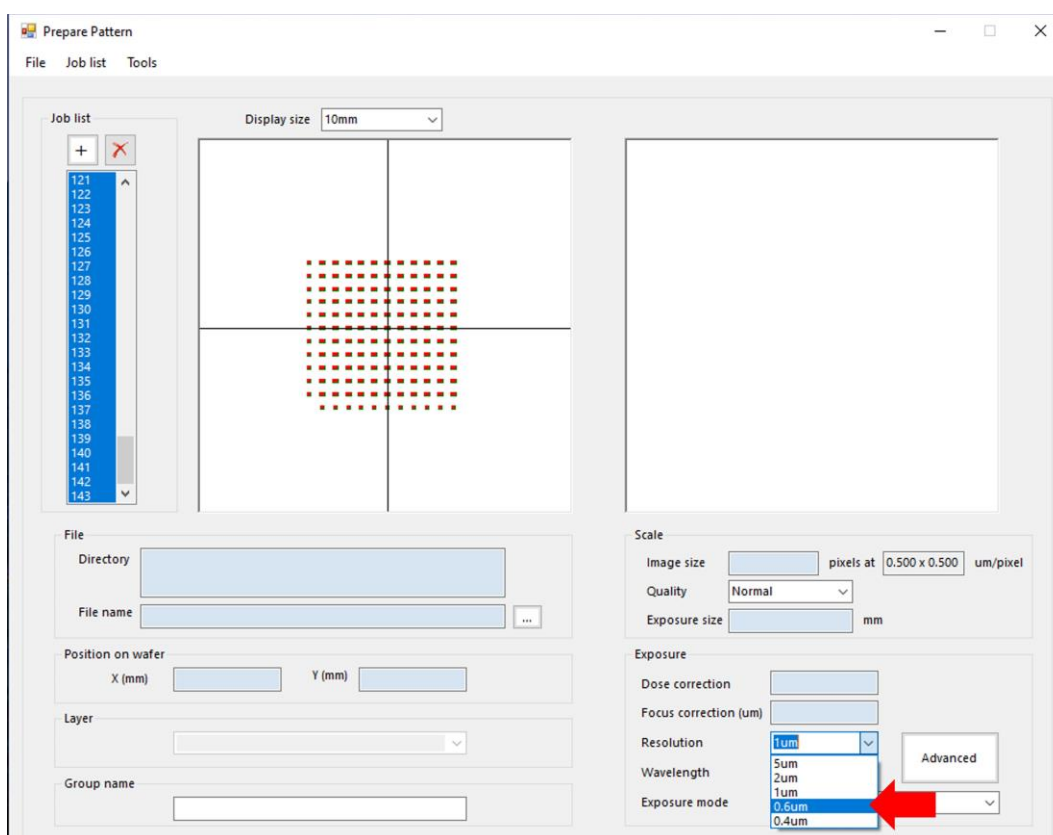

Figure 10 Changing resolutions used for the dose focus test.
1. Go to Job list > Select all (Figure 10).